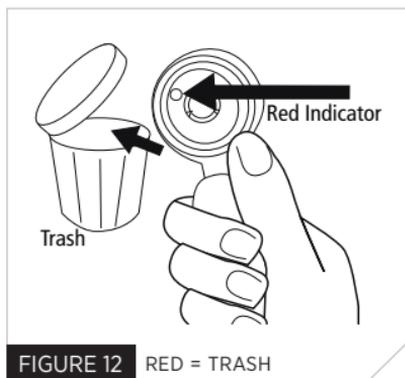

FIGURE 12 RED = TRASH
- Dispose of the used inflator body (Fig. 12).